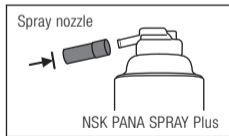

Fig. 23
- ① Attach the spray nozzle included in the nozzle of the PANA SPRAY Plus (Fig. 23).